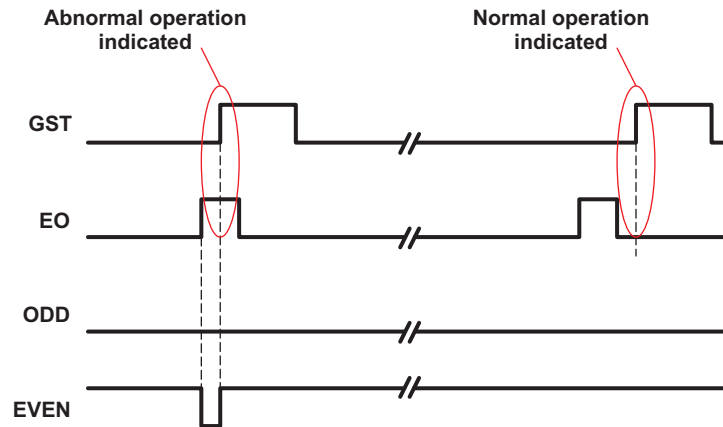

Figure 30. EO During Abnormal Operation, EVEN Initially High
The TPS65198 supports abnormal operation. Abnormal operation is detected when EO is high during the rising edge of GST (see Figure 30), after which the level shifter outputs are forced to the following state:
(2) Note that because of the dead time introduced by the EO signal during normal operation, a short low pulse may appear on the EVEN output when abnormal operation is detected (see Figure 30).